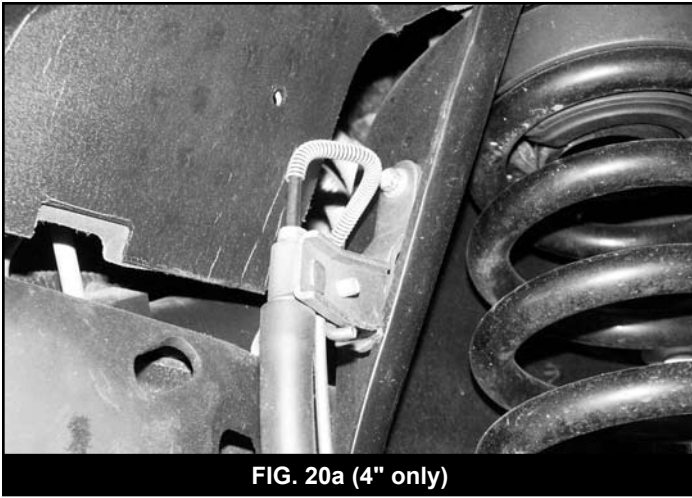

FIG. 20a (4" only)
47. Install the provided brake line relocation bracket to the original mounting hole on the coil spring bucket with the OE bolt. (Fig. 20a)